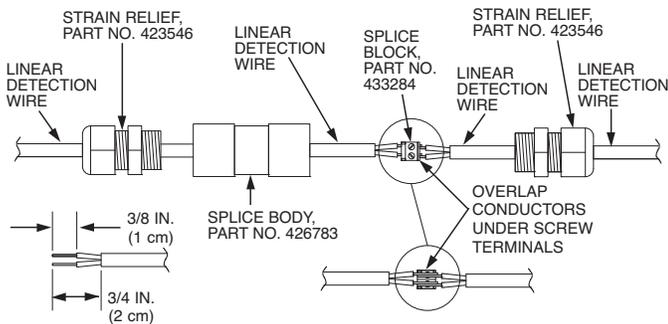

FIGURE 14
- ▶ The kit consists of the necessary number of components to assemble 10 complete assemblies. See Figure 14.